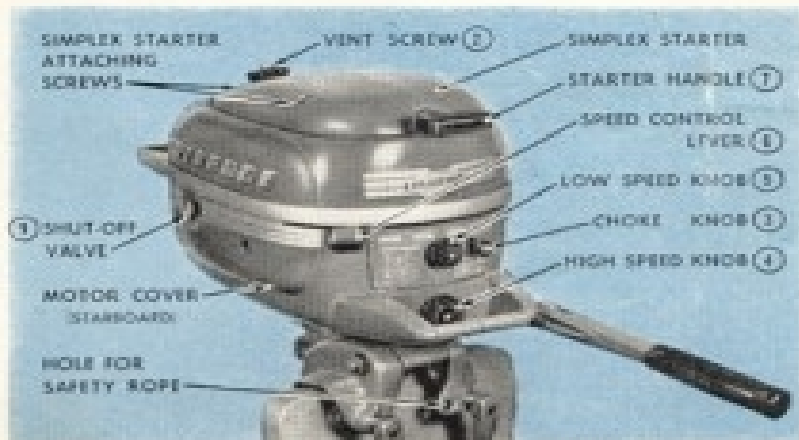
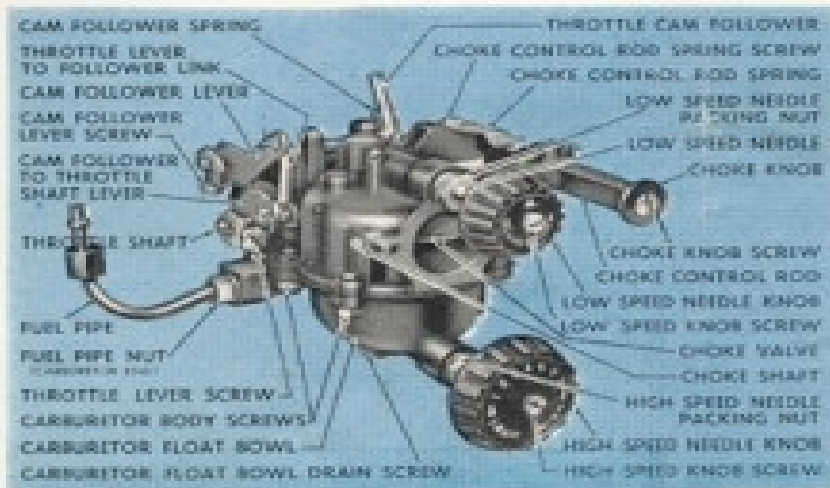

Fig. 3
Fig. 9
1. Open fuel valve located on starboard side of motor all the way (Fig. 3).
2. Open vent screw on top of filler cap by turning counter-clockwise (Fig. 3).
3. Pull out choke knob (located at port side of motor) (Fig. 3) all the way.
4. Turn High speed knob (located directly back of carrying handle) (Fig. 3) to No. 4.
5. Turn Low speed knob (located at upper front of motor) (Fig. 3) ½ turn from closed position.
6. Set speed control lever (Fig. 3) to "START" position.
STARTING WARM MOTOR Do not disturb High Speed Knob (Fig. 3) otherwise above instructions apply.
OPERATION OF FUEL VALVE The FUEL VALVE, (Fig. 3) located on starboard side of motor, when closed stops flow of fuel from fuel tank to carburetor. This VALVE and Vent screw on top of Filler Cap should always be closed when motor is not in operation, when transported or during storage.
TO AVOID FUEL LEAKAGE WHEN CARRYING OR HANDLING MOTOR It is important that the FUEL VALVE (Fig. 3) and vent screw are fully closed.
CARBURETOR (Fig. 9) The Carburetor is designated as a single barrel horizontal type, having throttle and choke valves.
To clean and drain float bowl remove small brass screw located at bottom of bowl (Fig. 9).
Should adjusting knobs become too loose and not retain proper setting they can be tightened to the desired friction by drawing up on the packing nut. After considerable use, it is desirable to replace packing in the nut which is located just inside the motor cover (Fig. 9).
It consists of a cam plate fastened beneath the magneto base which travels with any movement of the Speed Control Lever. This plate contacts a cam follower lever (Fig. 9) on carburetor, which is connected directly to the throttle valve on the carburetor. The moving of the Speed Control Lever (Fig. 3) to "FAST" advances the spark and opens the throttle valve; to "SLOW" retards the spark and closes the throttle valve.
SPEED CONTROL LEVER The position of the speed control lever (Fig. 3) will vary depending upon the type boat the motor is used on and the load that is carried. It is therefore important that the best running position be obtained as over-advancement will allow motor to four-cycle and knock causing burning and fouling of spark plugs.